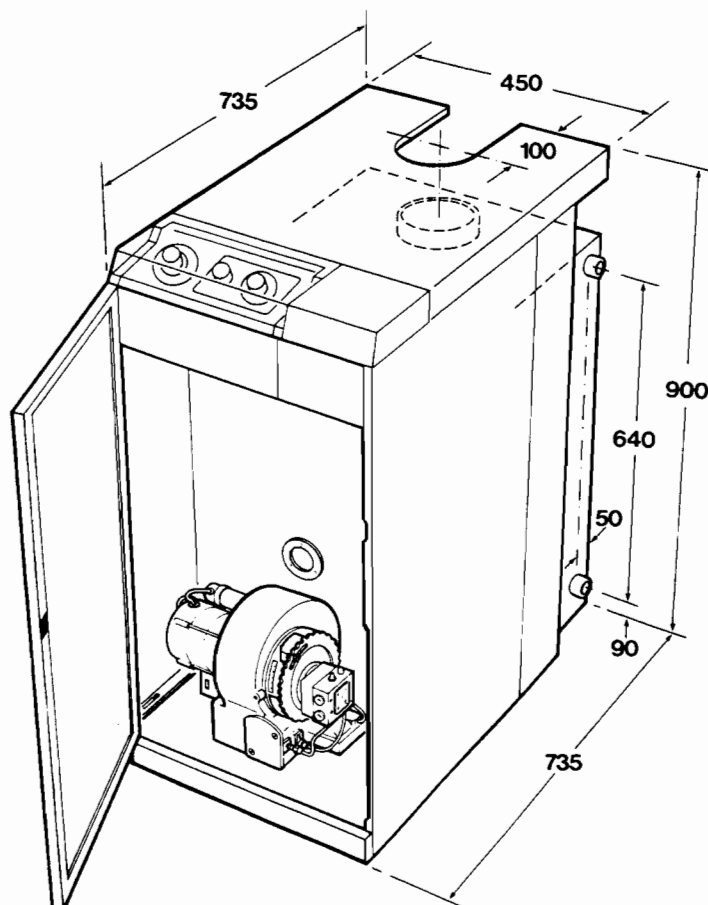

Fig. 1. General dimensions
3. Water connections. See Fig. 1